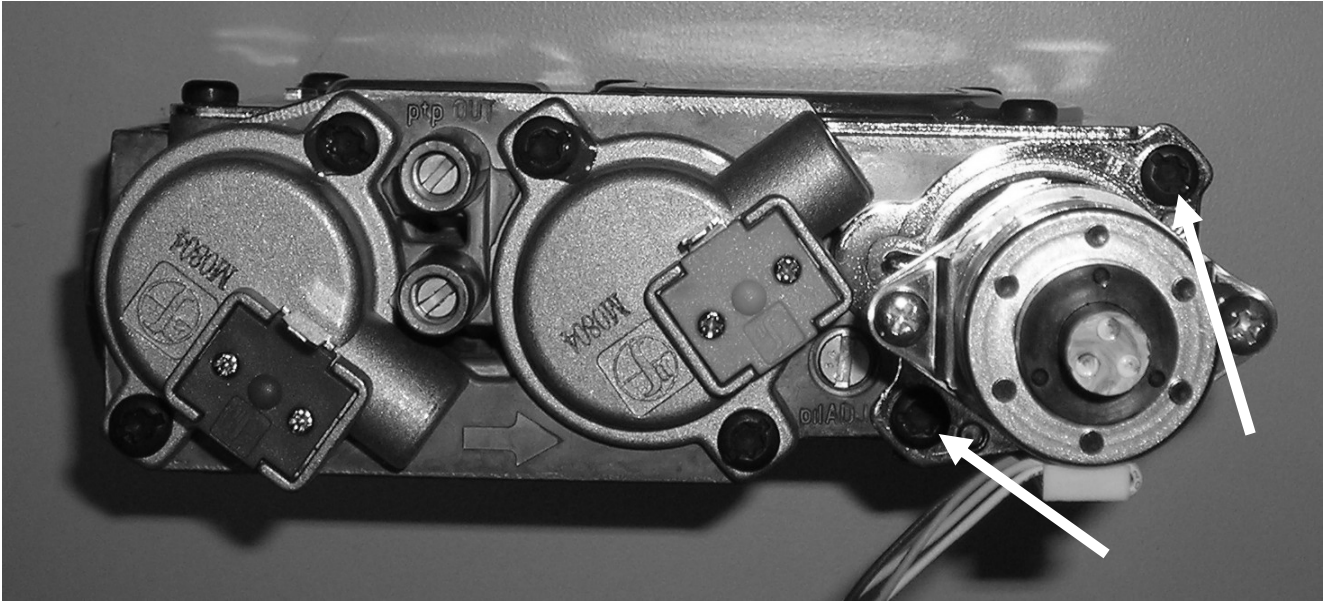

Figure 2: Converting the Regulator
- 5) Locate the Wiring Harness that shipped with this kit. Connect the white wire labeled (TPTH) to the white wire that was connected to the ON/OFF/T'STAT switch. Connect the green wire labeled (TH) to the green wire that was connected to the ON/OFF/T'STAT wire.
- 8) **Convert the Manual Control to the Stepper Motor Control.** Locate, and then use the T2 Torx or Flat-tip screwdriver to remove the 2 screws that mount the Manual regulator to the valve. Pull the rubber diaphragm off the valve. (Refer to Figure 2)